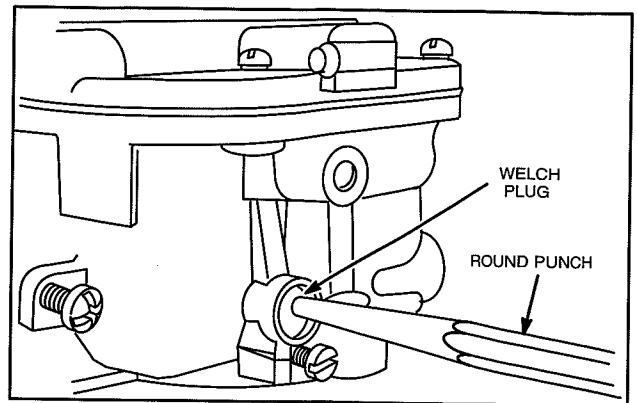

Fig. 88 – Install Welch Plug
1. Install new transitional hole welch plug, Fig. 88.